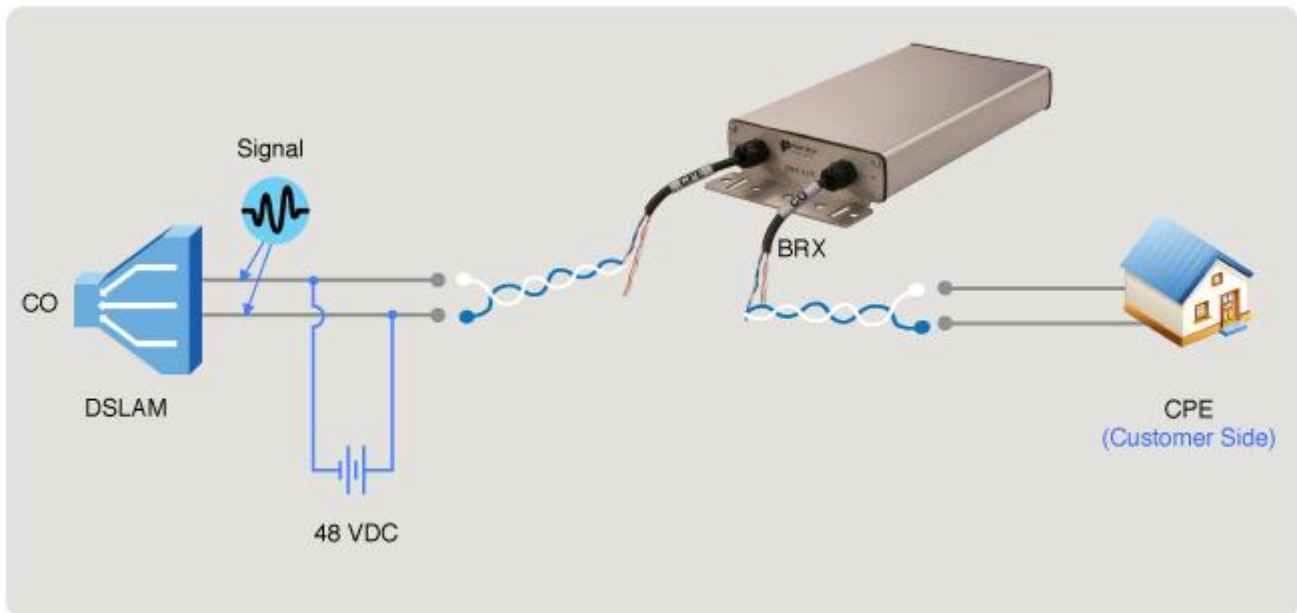

Figure 5: Using Sealing Current to power the BRX-XLR
The BRX-XLR needs to be powered from the POTS sealing current (-48V) originating from the DSLAM or the Central Office (CO). This is illustrated by Figure 5 below: